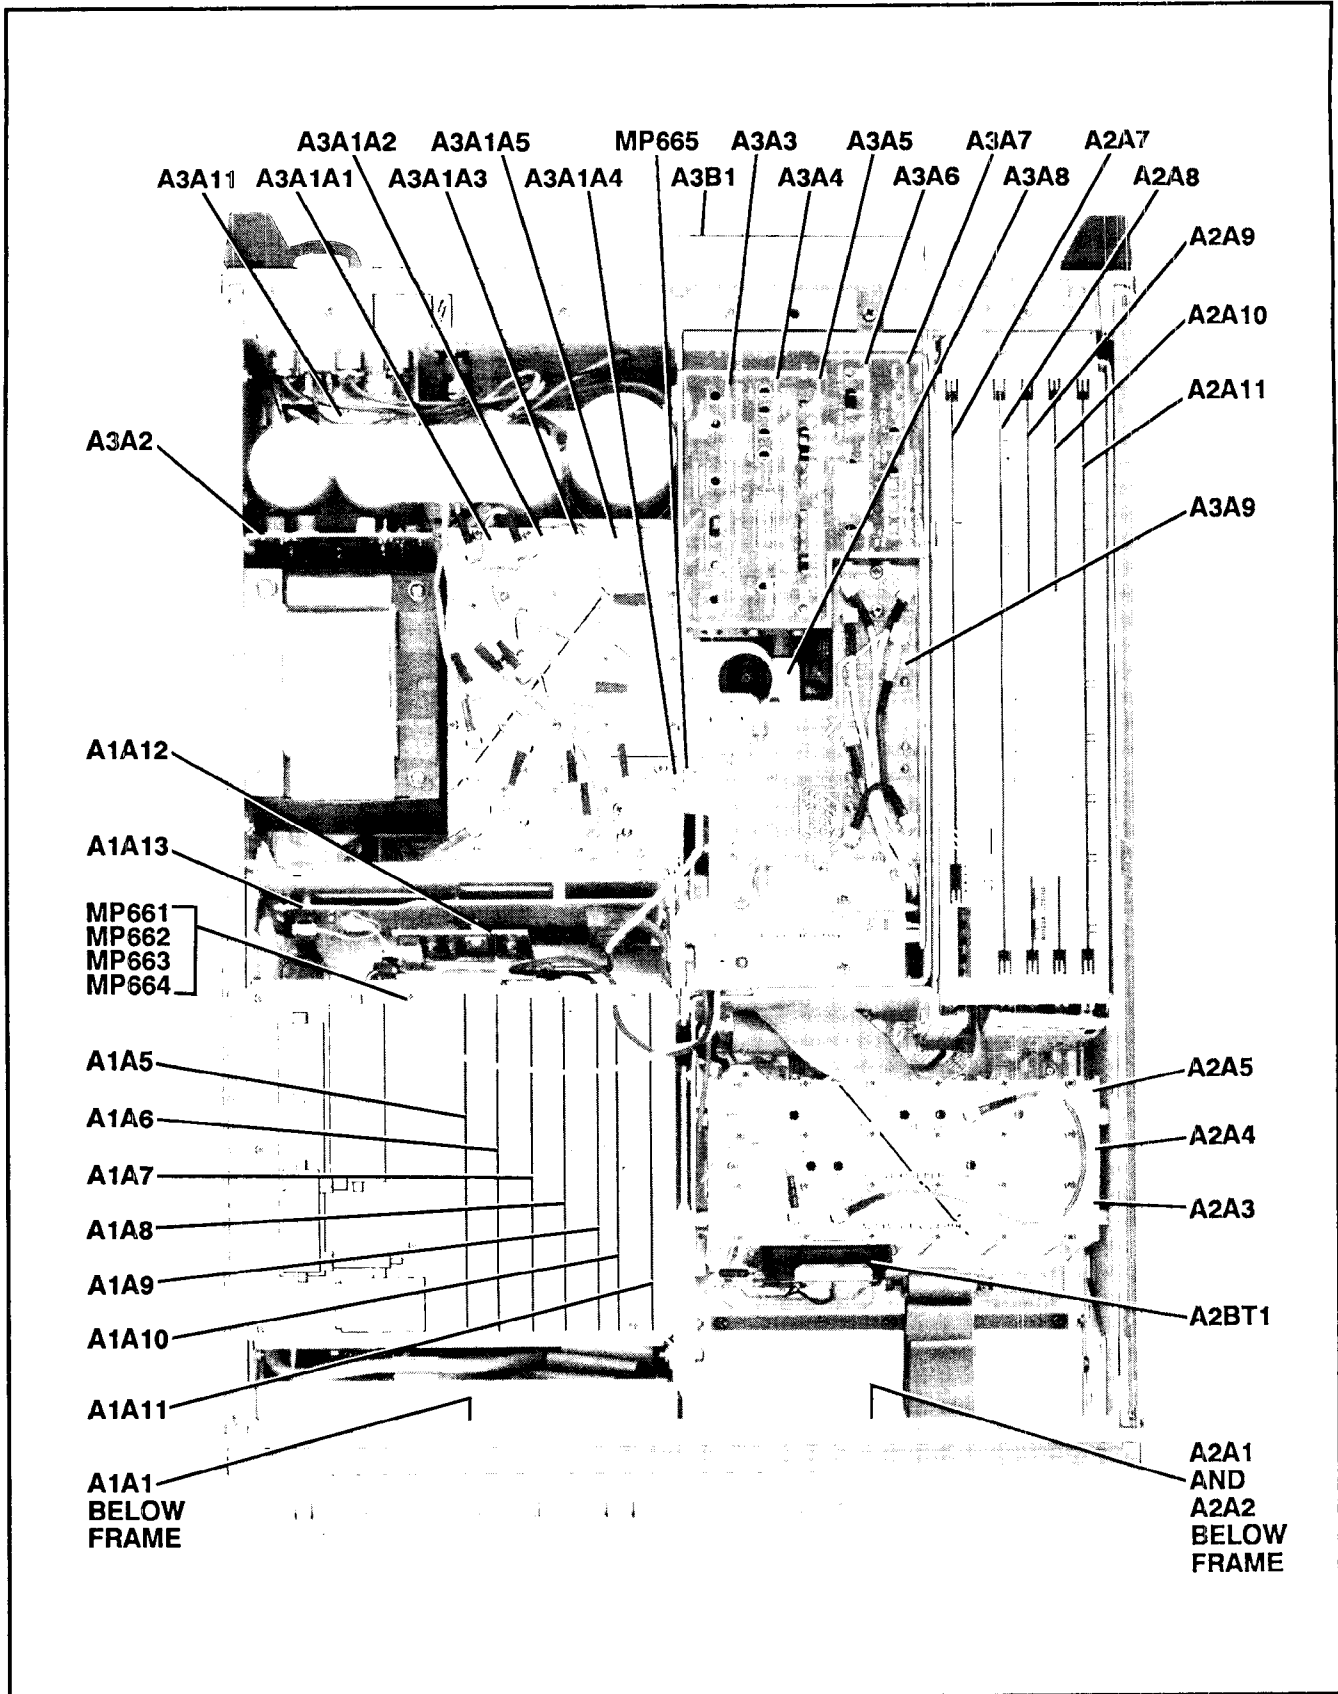

Figure 8-132. Top View, Assembly Location
3. Refer to figures 8-132 through 8-134 for the following steps.
**Introduction** Figures 8-132 through 8-134 provide internal views as an aid in servicing, disassembly and reassembly as well as assembly and component locations.